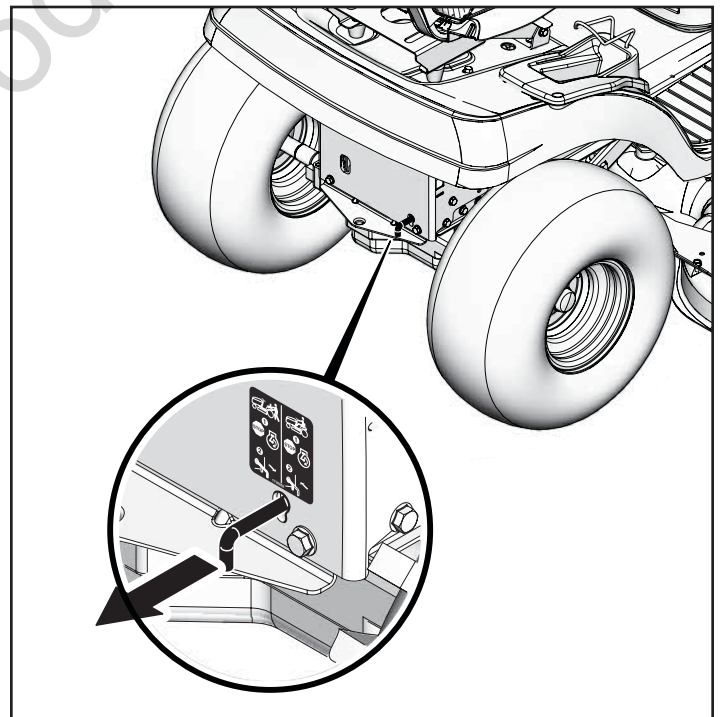

Figure 7
2. Pull out the lever approximately 2-3/8" (6 cm) to release the transmission (see Figure 7).